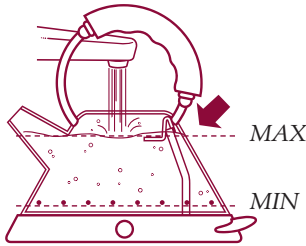

Fig. 6
- Do not exceed the maximum capacity of 1.5 litres (the maximum level mark inside the kettle (fig. 6). Filling the kettle beyond the maximum level mark brings the risk of boiling water overflowing from the spout with the consequent danger of scalding.